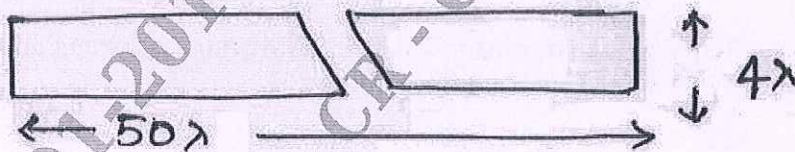

Fig.Q4(b)
- Calculate the area capacitance of the layer below [Refer Fig.Q4(b)] :